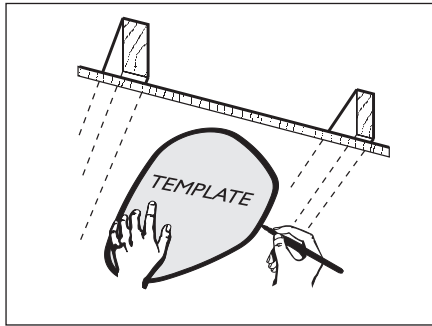

Fig. 9: Use template to mark position of Tastic
1. After determining the location of the Tastic, use the card included with your Tastic Carton as a template to mark out and cut an aperture in the ceiling. Make sure that template is parallel to a wall (Fig 9).